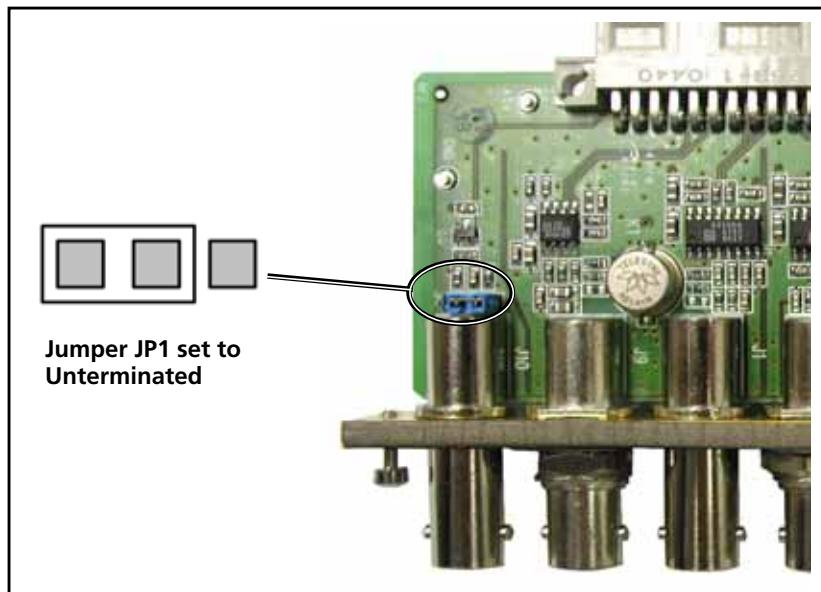

Figure 4-5 Jumper J11 on the NSM Back Module
- b Locate jumper **J11** on the NEO NSM back module (see Figure 4-5).